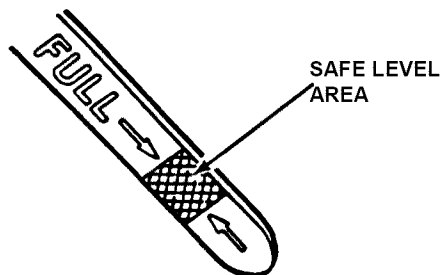

FIGURE 2.1
**2.1.3.** Check engine oil and add as needed to bring level up to the FULL mark. Refer to engine owner's manual for oil specifications. See Figure 2.1.